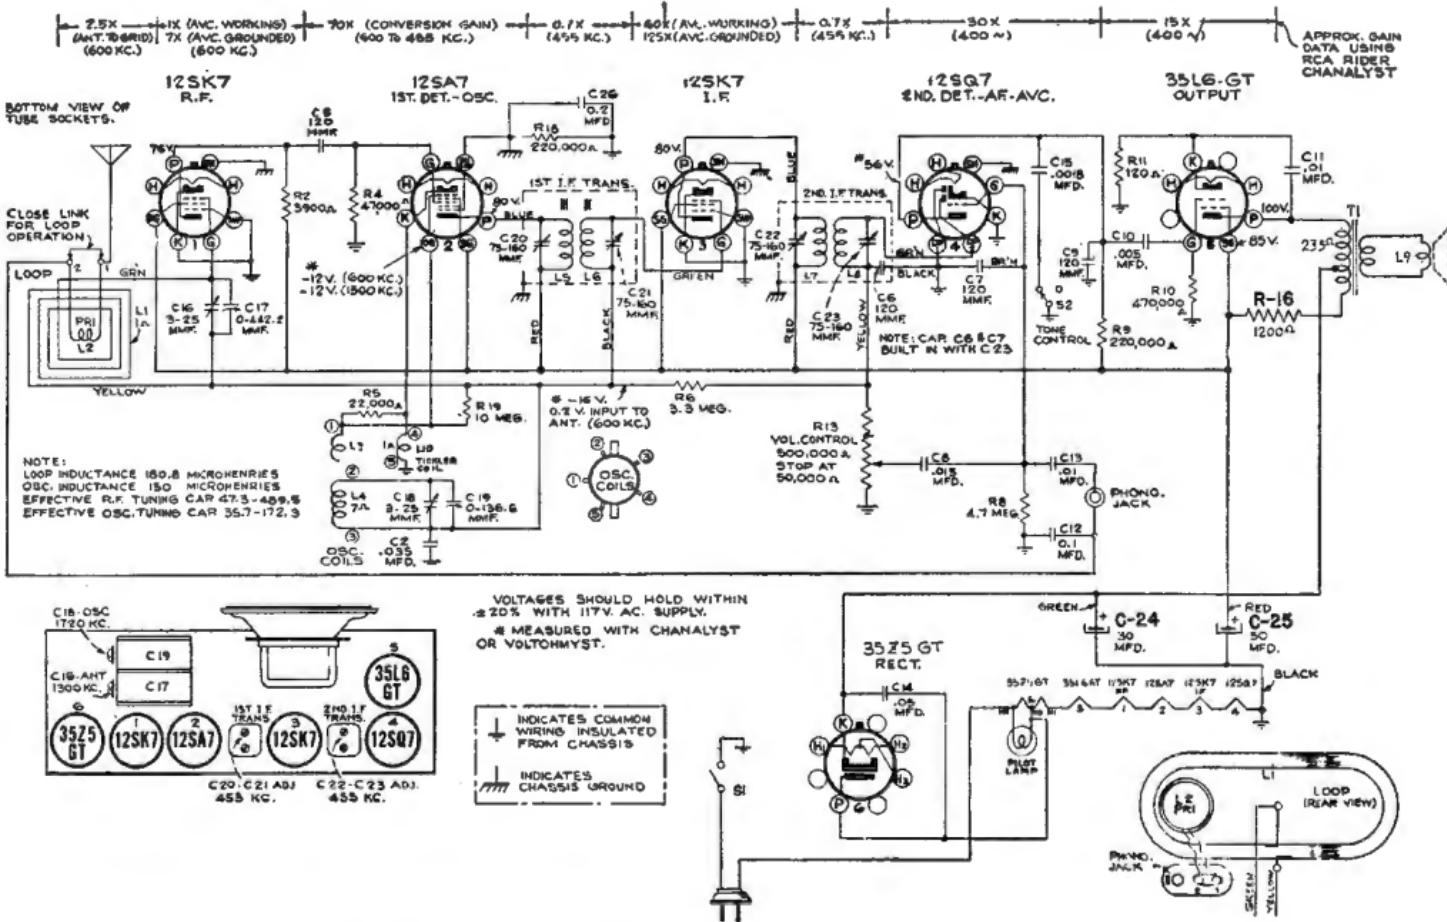

FIG. 18-28.—Schematic diagram of the RCA Victor Model 16X-1 receiver.
Tapped Output-transformer Filter Systems.—Some receivers make use of a tap on the output transformer to introduce a hum-bucking voltage to cancel the hum that would otherwise appear in the speaker. Figure 18-28 shows an R.C.A. 16X-1 receiver which uses a filter circuit of this type.
16. The receiver of Fig. 18-28 has an open output transformer. An exact replacement is unobtainable. What method would you use to repair it?